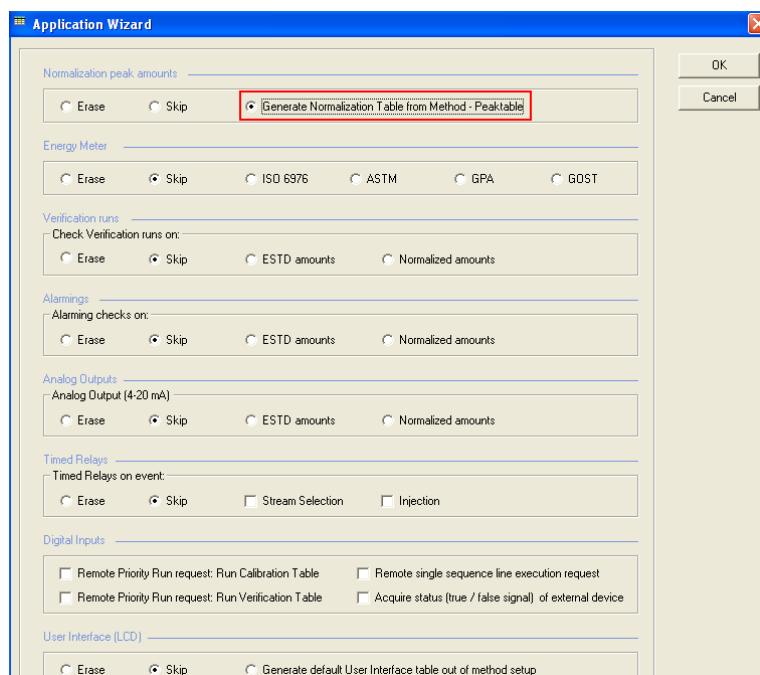

Figure 59: Application Wizard
- Select from the Application window, select option "Generate Normalization table from Method-Peak table", see Figure 59.